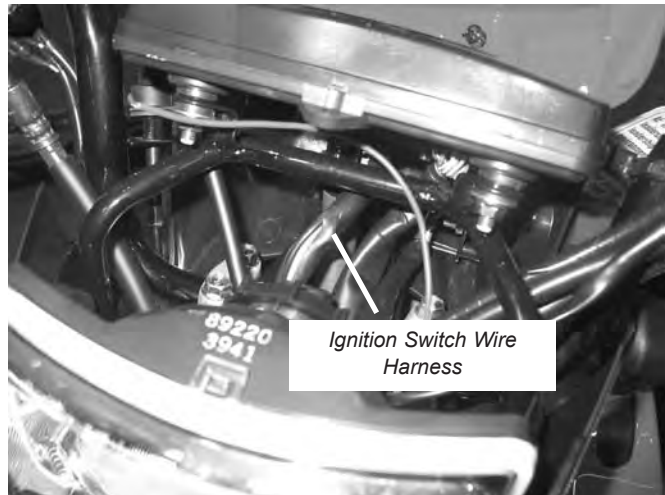

Figure 23 Connecting Switch - Red Wire
c. Remove the handlebar cowl, by removing the three fasteners (two on the side, one in front) to expose the ignition switch wire harness, figure 23. Cut back the harness protective cover and splice the red switch wire, using the scotch lock supplied in the mounting kit, into the pink wire located in the ignition switch wire harness. Before making the splice, make sure that the pink wire only has power when the key switch is on. Trim the red switch wire excess approximately 20cm (8 in). Retape with electrical tape.